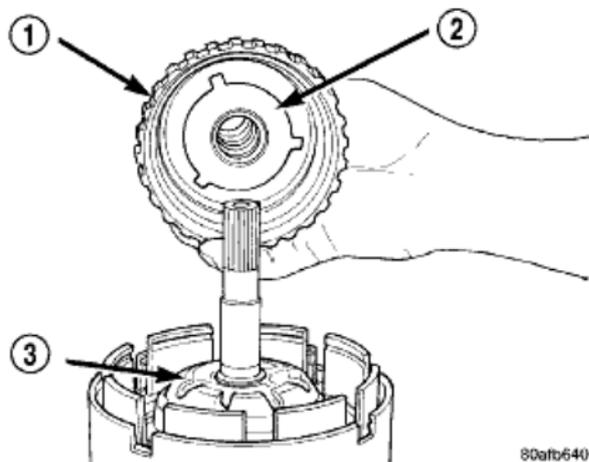

Fig. 296: Installing Overdrive Shaft Assembly
50. Install the overdrive shaft assembly (1) .
51. Reinstall overdrive and reverse clutch as shown in **Fig. 296**. **Rechecking these clutch clearances is not necessary.**